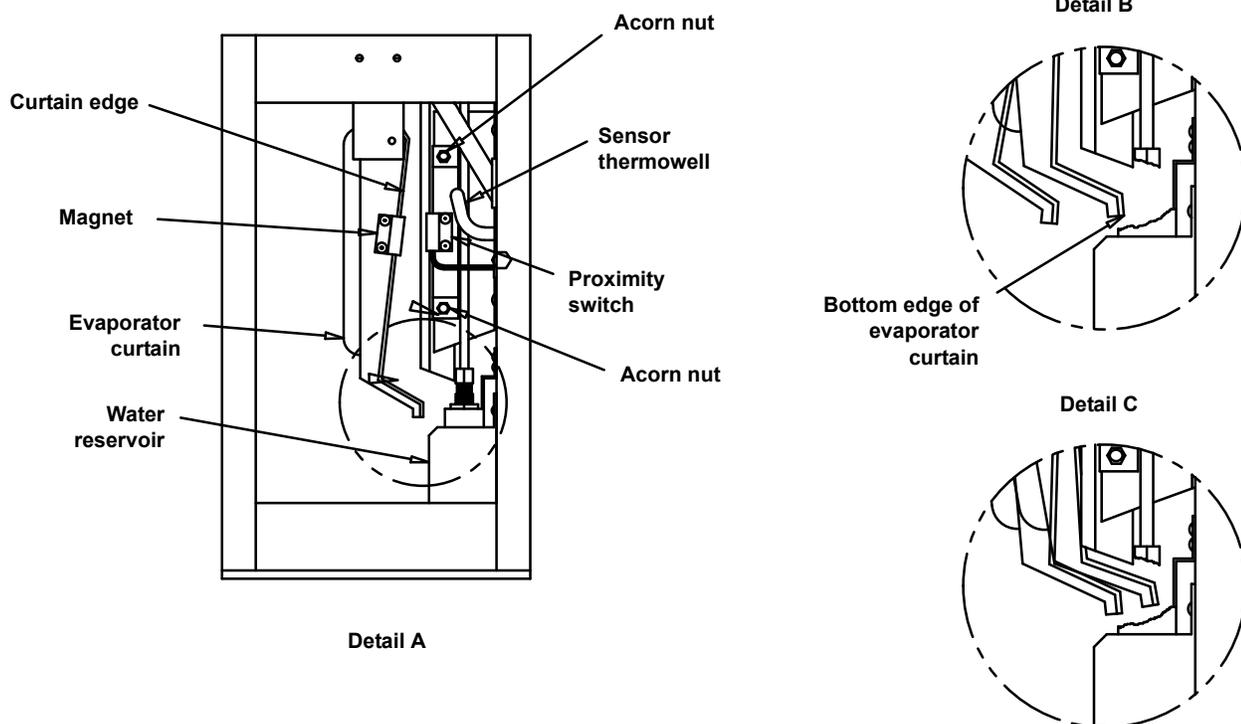

FIGURE 6
1. Start checking the water circuit by making sure that there are not thread of flare joint leaks, either outside the unit or in the compressor section. Next check the water flow over the evaporator and make sure that all holes in the water distributor are open (see Figure 6) and that there is no undue splash or loss of water into the ice bin.